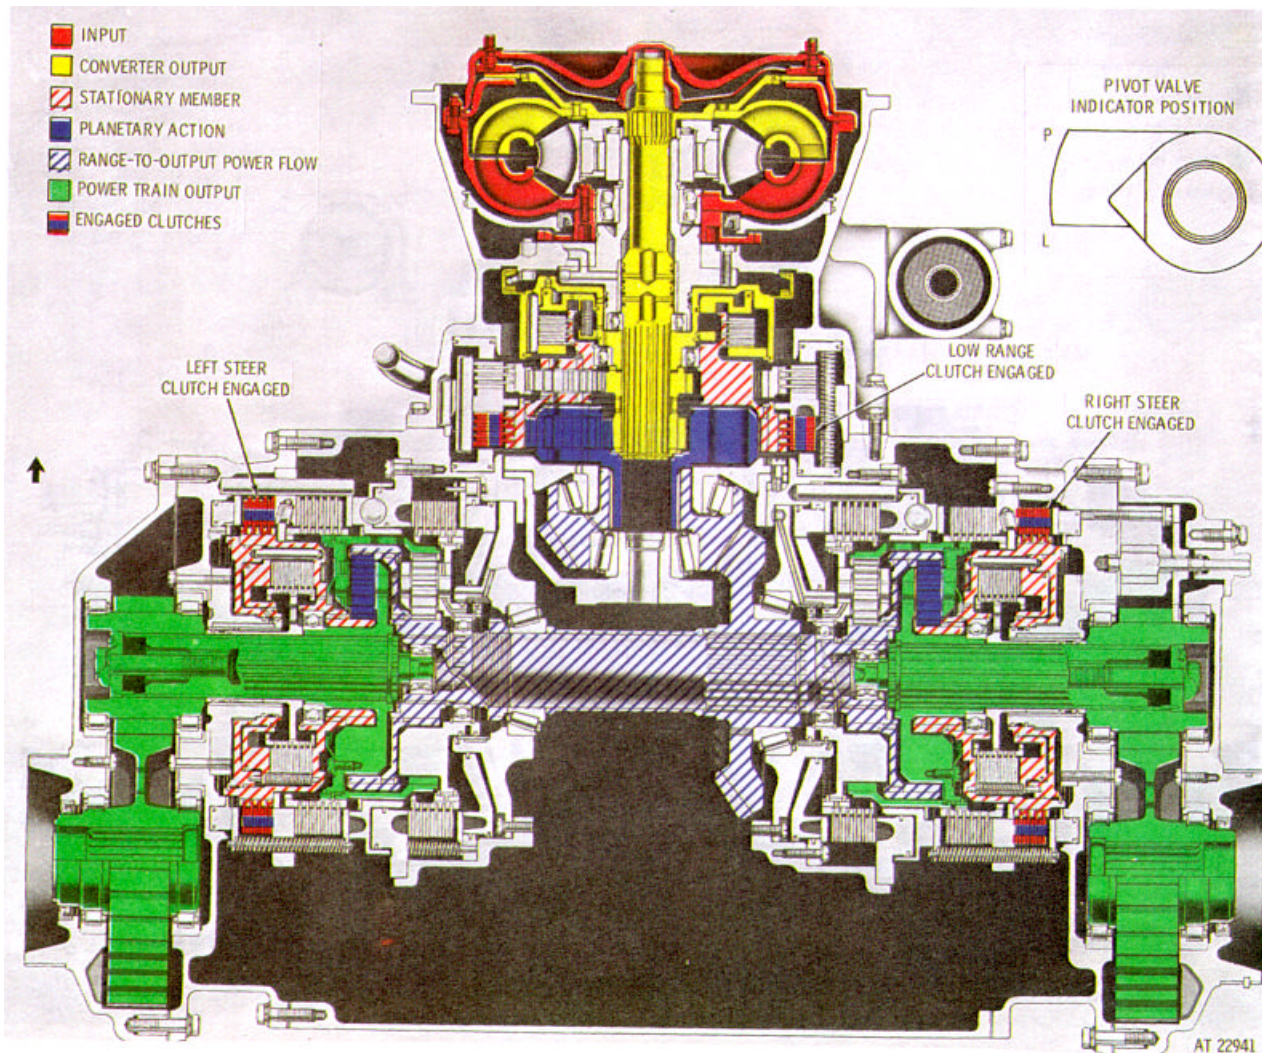

Figure 2-15. First gear, straight travel-operation-torque path.
a. First Gear--Straight Travel (fig. 2-15).